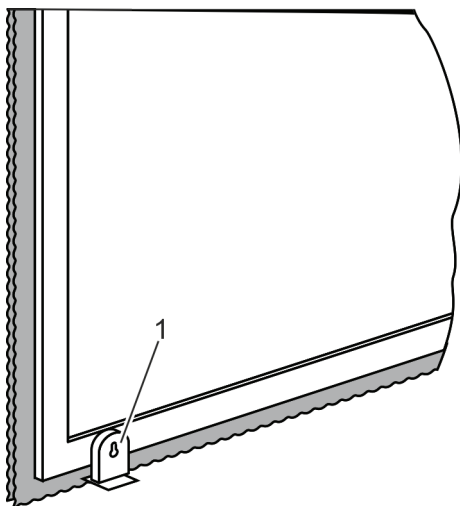

Fig. 37 Floor locking device (example)
1. Align the wing with floor locking device (Fig. 37).
2. Unlock the floor locking device (Fig. 37/1) of the wings. Make sure that the lock cylinder (Fig. 37/1) has been locked with two full revolutions.